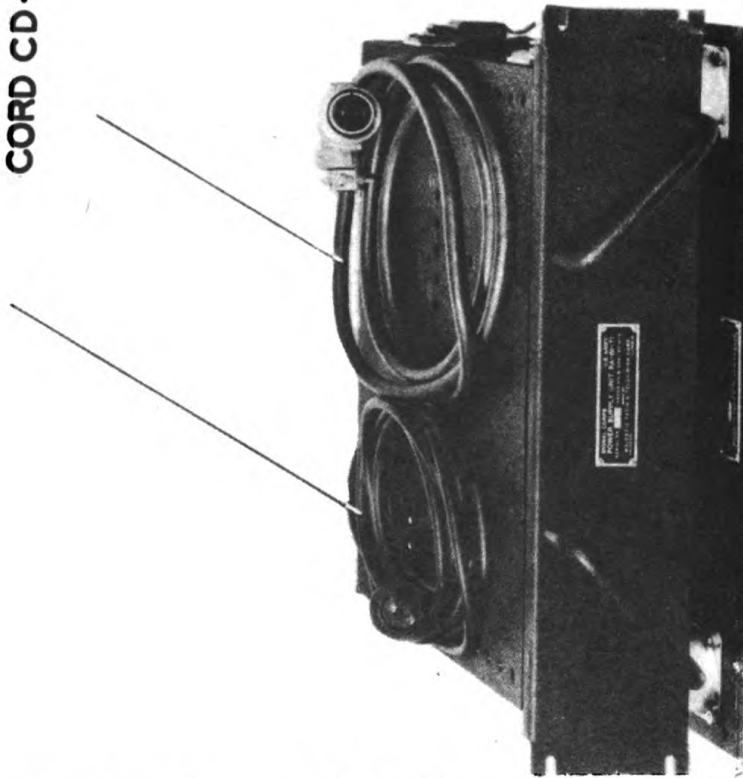

Figure 1. Radio Set SCR-614-A, front view.
1. General.—Radio Set SCR-614-A is a low frequency communication set used for intercept purposes. It covers the frequency range of 15-150 kilocycles and receives c-w and amplitude modulated tone and voice signals. It has a power output of two watts. Radio Set SCR-614-A consists mainly of Radio Receiver BC-969-A in Case CS-109-A installed on Mounting FT-411-A (figure 1). Neither the case nor mounting is used when the receiver is placed in a rack; the case may be used without the mounting when the receiver is set on a table; the mounting must be used in vehicles. Power is furnished by Power Supply Unit RA-61-A on mounting FT-414 (figure 1) installed near the receiver. The mounting need not be used when the power supply unit is mounted on a rack or placed on a table. The overall size of the receiver in the case and on the mounting is 21¹/₄ inches long, 12¹/₄ inches high, and 17¹⁵/₁₆ inches deep; the weight is 78.1 pounds. The overall size of the power unit on the mounting is 19 inches long, 5⁵/₈ inches high, and 14 inches deep; the weight (including Cords CD-872 and CD-873) is 63.7 pounds.